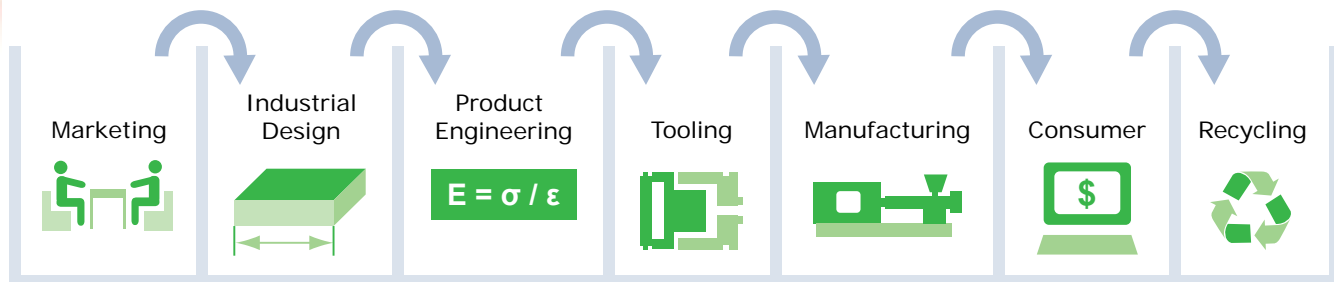

Figure 1
**T**he products we develop must satisfy a variety of criteria, be aesthetically pleasing, functional over the product's service life, safe, economical and they must be manufacturable. Historically, plastics products, like many other products, have been developed using the so called "Over the Wall Approach to Design". In many ways, it is human nature that the designers of new products want their own ideas to drive the development. In reality however, this approach to product development does not lead to the most efficient product designs, at least not in a timely manner. This series and compartmentalized approach to design, where there is limited communications between the various professionals involved in the development process, is common. Those involved in the early upstream concept stages of design, such as industrial design, establish the shapes that the engineers, tooling designers and manufacturing engineers must bring to fruition. In many cases, the part geometries established by the industrial designers and the product designers are in fact found to be difficult or impossible to manufacture once these proposed part designs reach the eyes of the tooling designer. In such a case, the tooling designer will recommend changes and a more manufacturing friendly design can be jointly developed. However, it should be noted that the x-axis in figure 1 is time, and movement to the left along the x-axis is wasted time. Delays in new product development are almost always traced back to a lack of coordination between various parties involved in the product development process.
The solution to this all too common problem is not complicated. It is simply a matter of management philosophy. The same product development groups shown in figure 1 must function more like a team with greatly improved communications. Conceptually, "Concurrent Engineering" as it is commonly called, is like putting all of the professionals involved in the product development process in one room, with no walls between them. When the industrial designer